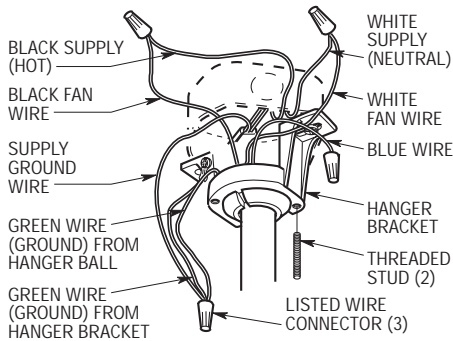

Figure 14
- 1. Pull the wire leads, coming from the end of the downrod, and the supply wires through the open side of the hanger bracket (Figure 14).
- 2. Connect the green grounding wire from the hanger ball, the green grounding wire from the hanger bracket to the grounding conductor of the supply (this may be a bare wire or wire with green colored insulation). Securely connect wires with wire connectors (supplied) (Figure 14).
- 3. Securely connect the fan motor white wire to the supply white (neutral) wire using wire connector supplied (Figure 14).
- 4. Securely connect the fan motor black wire to the supply black (hot) wire using wire connector supplied (Figure 14).
- 5. Cap the blue fan wire with a wire connector if using the supplied wall control (Figure 14).
- 8. Screw the two 1-1/4" threaded studs (supplied) into the tapped holes in the hanger bracket (Figure 14).